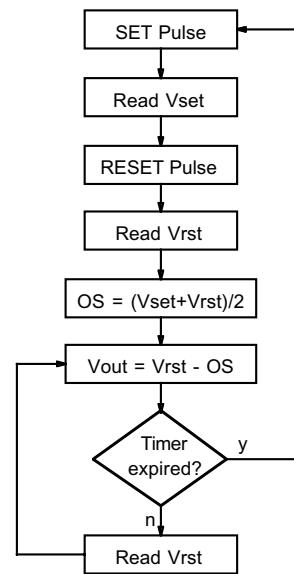
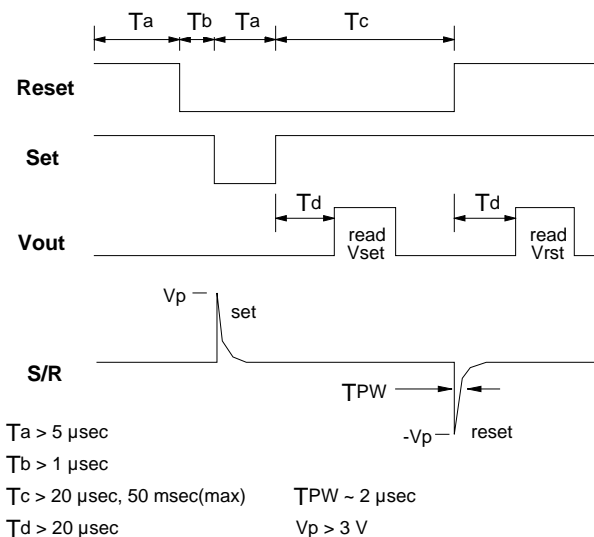

Figure 14—Low Power Set/Rst Flowchart
Figure 15—Single Clock Set/Reset Pulse Circuit (1021/1022)
Low Power—For low power application, down to 3.3 volt supply, the circuit shown in Figure 15 can be used. These low threshold FETs provide low on-resistance (0.3Ω) at $V_{GS}=2.7V$. The set/reset pulsing does not need to be continuous. To save power, the SET pulse can be initially applied followed by a single RESET pulse. The offset (OS) can be calculated as:
This offset term will contain the DC offset of both the sensor bridge and interface electronics, as well as the temperature drift of the bridge and interface electronics. Store this value and subtract it from all future bridge output readings. Once the bridge is RESET, it will remain in that state for years—or until a disturbing field (>20 gauss) is applied. A timer can be set, say every 10 minutes, to periodically update the offset term. A flow chart is shown in Figure 14 along with a timing diagram in Figure 15 to illustrate this process.